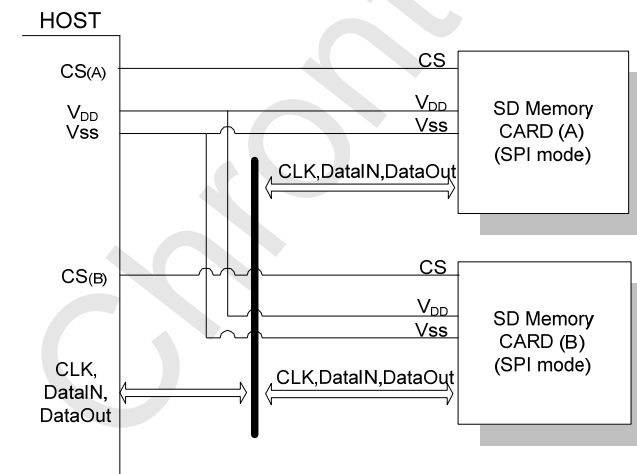

Figure 3-3: SD Memory Card System (SPI Mode) Bus Topology
The card identification and addressing methods are replaced by a hardware Chip Select (CS) signal. There are no broadcast commands. For every command, a card (slave) is selected by asserting (active low) the CS signal (see Figure 3-3).